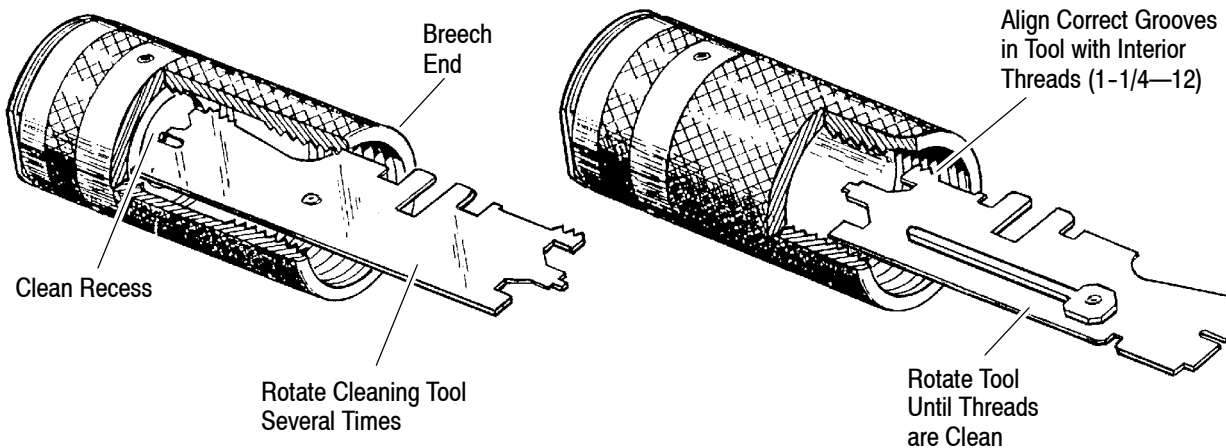

Figure 46
1. Clean piercer pin guide and surfaces indicated in Figure 46, Detail A, by inserting correct end of cleaning tool into gas release end of sleeve. Rotate tool several times making sure that all surfaces are clean. If pin guide hole is oval or worn, return entire breech cap assembly for replacement or repair.
3. Clean recess in breech cap sleeve by inserting correct end of cleaning tool into front of sleeve as shown in Figure 46, Detail B. Rotate cleaning tool until recessed surface is clean. To clean interior threads (1 1/4 - 12) in the breech end, insert correct end of cleaning tool as shown in Detail B. Make sure grooves in tool are aligned with threads. Rotate until clean.